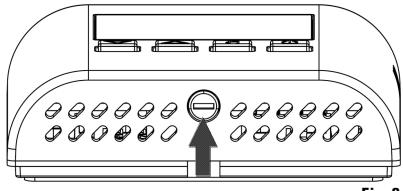

Fig. 2
- Push, with the help of a screwdriver, the plastic tooth located on the slot on the bottom side, then slightly lift up the plastic cover (Fig. 2).